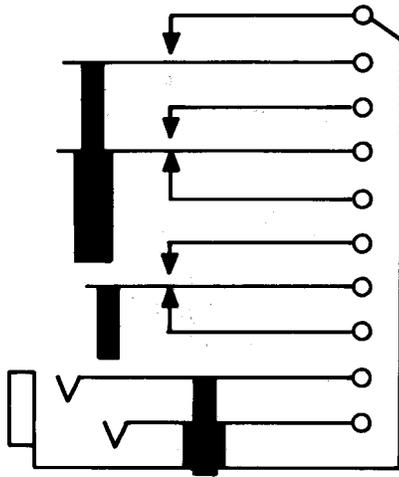

Fig. 10—611C Jack
2.10 611C: This single-mounted jack (Fig. 10) with terminals is designed for soldered connections and mates with the 310-type plugs. The 611C jack is used as a patching jack for the T2 Digital Line.